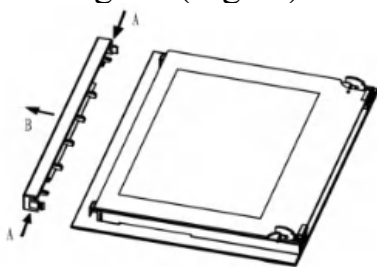

Fig.7
1. Press the buttons on the left and right sides of the door and remove the top rail (Fig.7).